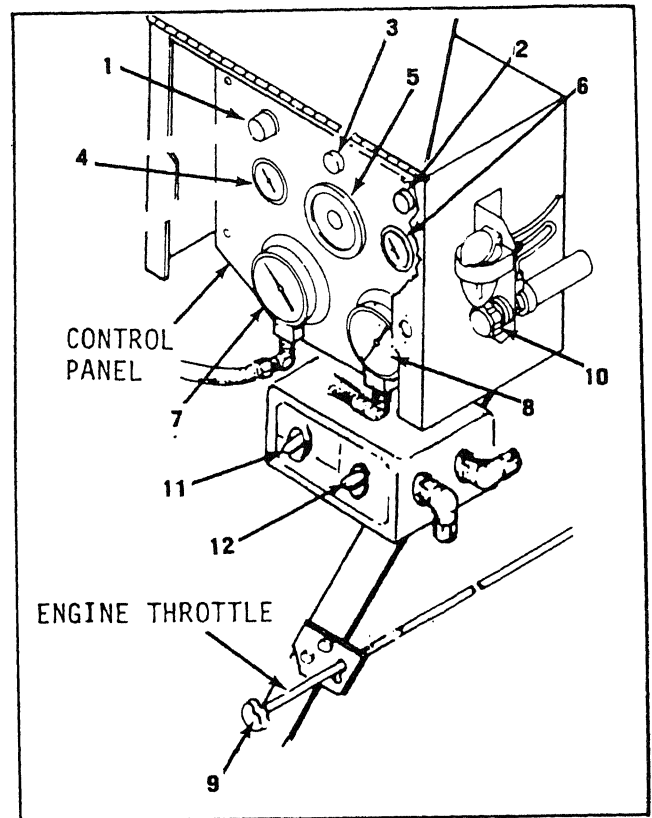

Figure 2-1. Control Panel
a. Control Panel. The control panel is located on the forward right side of the pumping assembly. It contains the following controls. See figure 2-1.
- (1) Start/Stop. This switch is a push-pull type switch and is marked EMERGENCY STOP, PULL TO RESET and PUSH TO STOP for Model LC 350GPM (36024) and PULL TO START, PUSH TO STOP for Models 133220E1070 (97403), 13226E2289 (97403), and 13225E9200 (97403). The switch is pulled out during engine start cycle and remains pulled out while engine is operating. It is pushed in to shut down engine.
- (2) Start Switch. This switch is a pushbutton type switch and is marked PUSH TO START for Model LC 350GPM (36024) and START for Models 13220E1070 (97403), 13226E2289 (97403), and 13225E9200 (97403). The switch is pushed in and held during engine start to activate K3 start relay. The switch is released upon ignition.
- (3) Oil Pressure Bypass Switch. This switch is a pushbutton type switch and is marked PUSH FOR OIL PRESSURE BYPASS for Model LC 350GPM (36024) and OIL PRESSURE BYPASS for Models 13220E1070 (97403), 13226E2289 (97403), and 13225E9200 (97403). The switch must be pushed in simultaneously with start switch during engine start. The oil pressure bypass switch is released upon ignition and oil pressure buildup.
- (4) Oil Pressure Gauge. Indicates engine oil pressure by pounds per square inch (PSI). This gauge is graduated in 10 pound increments from 0 to 80 PSI.
- (5) Tachometer/Hourmeter. Indicates engine speed in revolutions per minute (RPM). This gauge is graduated in 100 RPM increments from 0 to 3000 RPM. The center portion of the gauge indicates the total number of hours the engine has been operated.
- (6) Ammeter Gauge. Indicates alternator amperage output. This gauge is graduated in 30 amp increments from 0 to +60 AMPS and from 0 to -60 AMPS.
- (7) Suction Gauge. This gauge is marked SUCTION and indicates pump suction pressure and vacuum per square inch (PSI). This gauge is graduated in one unit increments from 0 to 30 psi for both vacuum and pressure with numerals at five unit intervals on the pressure side and at ten unit intervals on the vacuum side.
(8) Discharge Gauge. This gauge is marked DISCHARGE and indicates pump discharge pressure in pounds per square inch (PSI). This gauge is graduated in 5 pound increments from 0 to 160 psi with numerals at 20 psi intervals.
** (9) Engine Throttle. Provides manual speed selection. Turning throttle control counterclockwise increases engine speed. Clockwise rotation decreases engine speed.
(10) Handpump. Used to pressurize the cold start reservoir. If the outside air temperature is below +40°F (+5°C) the cold start system may be used to assist in starting engine.